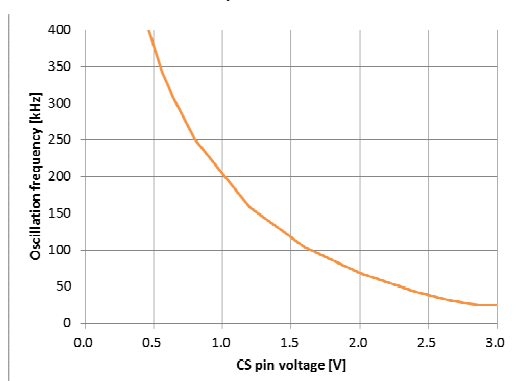

Fig. 10 VCS vs. Oscillation frequency
3. The oscillation frequency in the period of soft start at start up is decided based on the curves of Fig. 10.